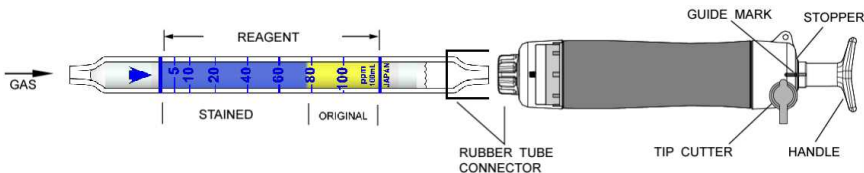

Fig.1
- ① Break both ends of the detector tube.
- ② Insert the detector tube into the aspirating pump securely as shown in Fig.1. (Arrow mark shall point to the pump.)
- ③ Align the guide marks on the shaft and stopper of the aspirating pump.
- ④ Pull the pump handle at a full stroke until it locks and wait for 1.5 minutes or until the completion of sampling is confirmed with the flow indicator of the pump. (See descriptions about the flow indicator in the instruction manual of the pump.)
- ⑤ On completion of sampling, read the scale at the maximum point of the stained layer.
- ⑥ When the concentration is below the scale range, 2 pump strokes can be used to determine concentrations of 2.5 to 50 ppm. Then multiply the reading value by 1/2.